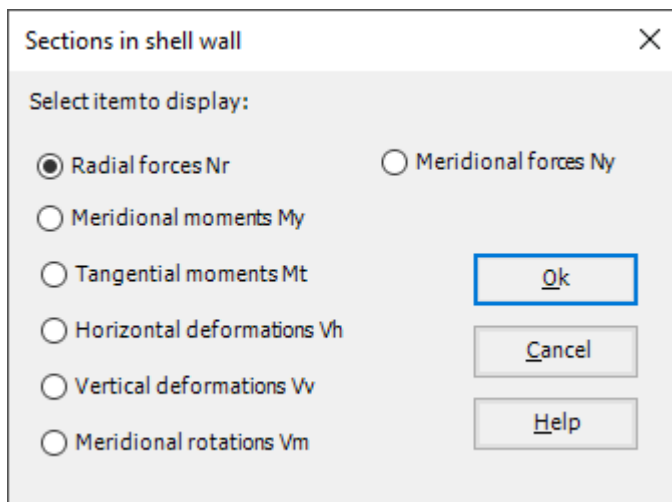

Figure 8.25 "Sections in shell wall" option box
- Choose "Sections in shell wall" command from "Section" menu. The following option box in Figure 8.25 appears